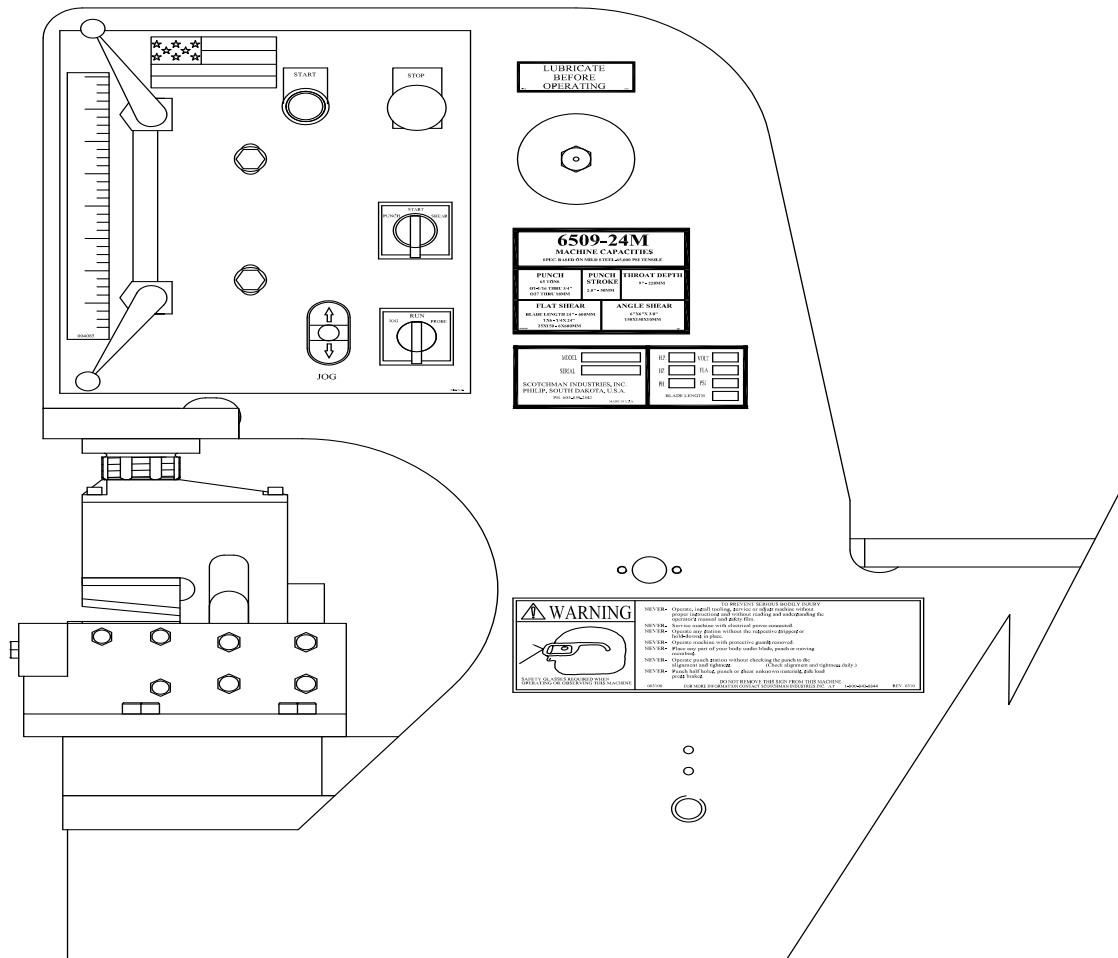

FIGURE 17
**SEE FIGURE 17 ON THE FOLLOWING PAGE.**
**TO MOUNT THE NOTCHER, remove the die holder and stripper. Mount the notcher so that the punch ram lines up over the pressure block on the tool. With the two M-16 bolts used in the punch station and the finger clamps (B) provided, anchor the tool to the punch bolster.**